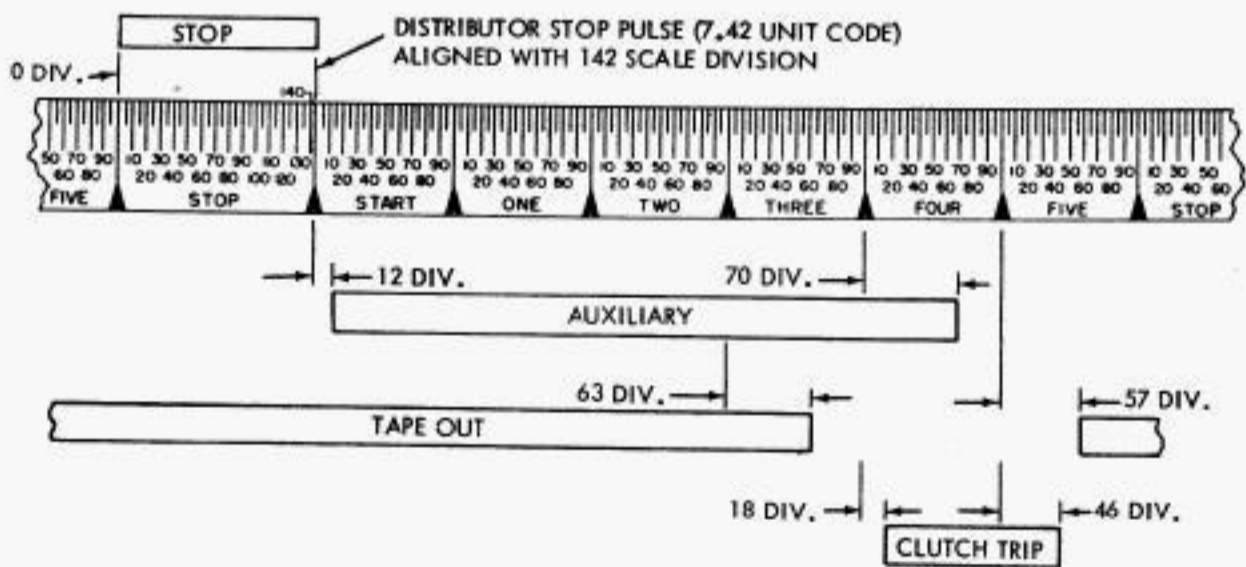

Fig. 5 — Pulse Length Requirements for Storing Switch Auxiliary Contacts (28C Unit)
- (1) With test set connected to auxiliary contact A or transmitter auxiliary contact, contact shall **close** at 12 ± 30 divisions in start pulse segment of test-set scale and **open** at 70 ± 30 divisions in No. 4 pulse segment of test-set scale. (See Fig. 5.)
(2) With test set connected to auxiliary contact B or distributor clutch-trip contact, contact shall **close** at 18 ± 30 divisions in No. 4 pulse segment of test-set scale and **open** at 46 ± 30 divisions in No. 5 pulse segment of test-set scale. (See Fig. 5.)
(4) With test set connected to tape-out contact or 6th pin contact of **28C unit** and with no tape in the transmitter, contact shall **close** at 57 ± 40 divisions in No. 5 pulse segment of test-set scale and **open** at 63 ± 40 divisions in No. 3 pulse segment of test-set scale. (See Fig. 5.)